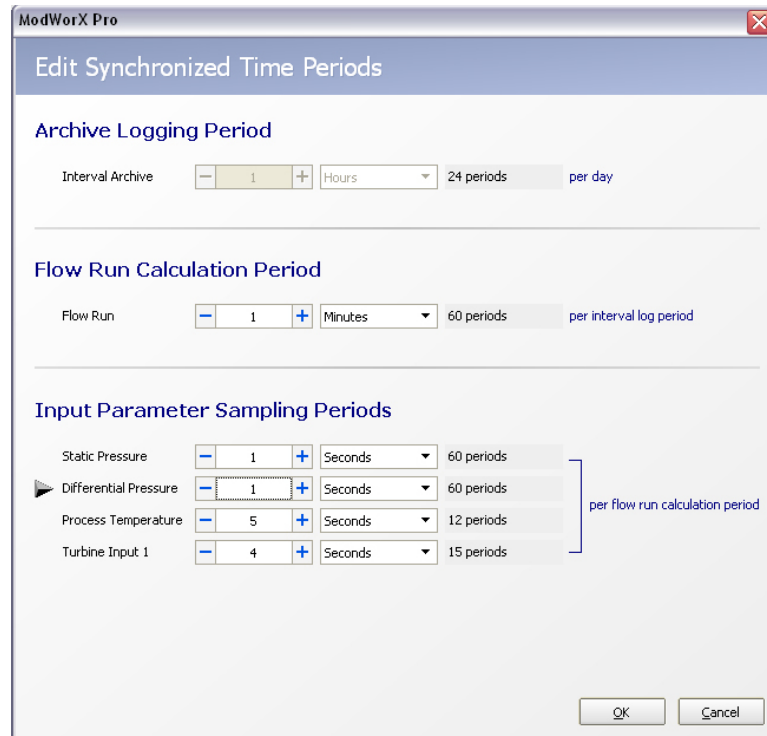

Figure 6.5
- i. Click **Edit**. The Edit Synchronized Time Periods dialog will appear, and an arrow will point to Differential Pressure (Figure 6.5, page 78).